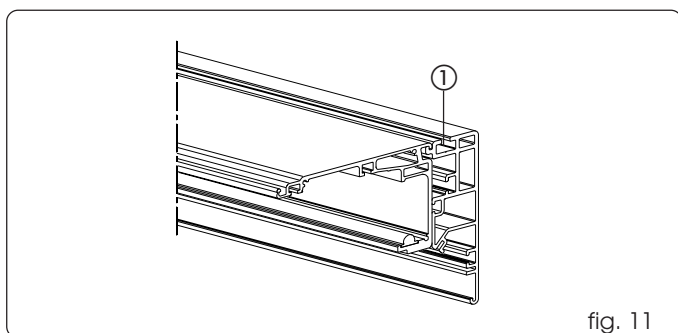

fig. 11
Intermediate securing points may be necessary, depending on the length of the header, using the guide indicated in fig. 11 ref. ①, central securing is required for 3 to 4 m lengths. two intermediate securing points are required for 4 to 6.1 m lengths. However, we advise you to create a central securing point also for lengths of less than 3m.